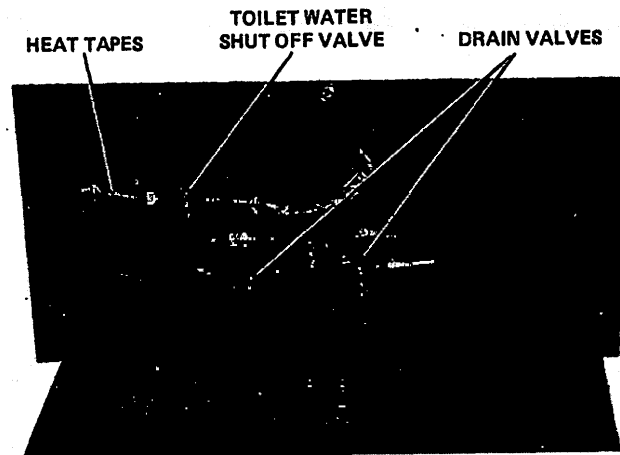

Figure 5-2. Under-Sink Plumbing
- d. Hot and cold water drain valves, located beneath the bathroom cabinet, figure 5-2.
For side-bath models, the hot and cold water piping is routed first to the galley sink, then to the shower, bathroom sink and the toilet. (For rear-bath models, the hot and cold water piping is routed first to the toilet water supply shut-off valve located beneath the sink.) Note that the drain valves are also located beneath the sink, as shown in figure 5-2. These valves are used only when it is necessary to drain out the lines prior to winterizing the unit; or for draining the system completely for sanitizing. Keep valves closed at all other times.